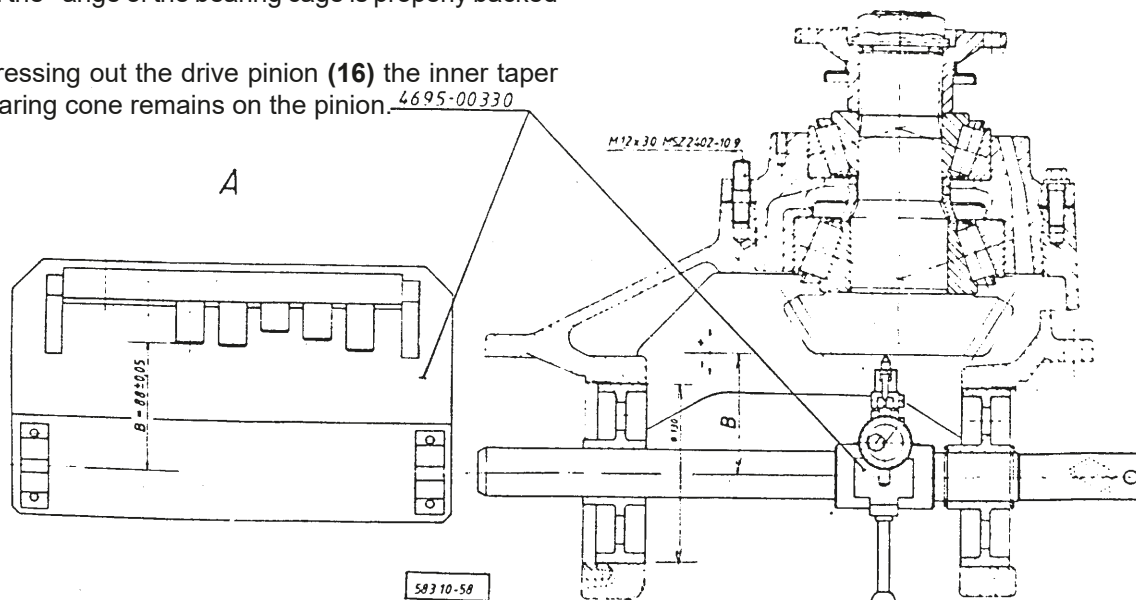

Fig. 1.: PRESSING OUT THE DRIVE PINION
By means of the device arranged from parts shown in the press the drive pinion (16) out of the removed bearing cage (8) (see Fig. 1.).